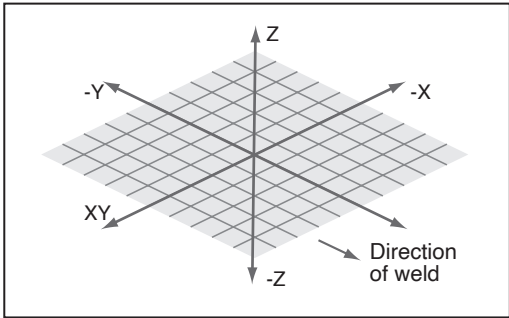

FIG. 7
8.8 DIRECTION OF WELD – FIG. 7